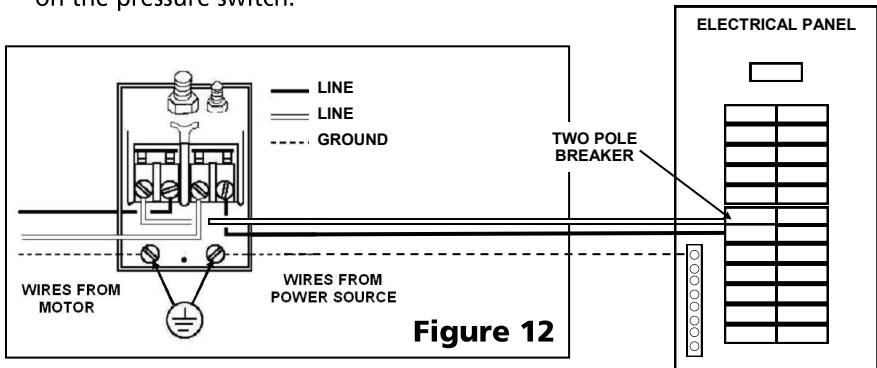

Figure 12
2. Connect one hot wire (usually black or red) from the power source to one of the screw terminals on the pressure switch. It doesn't matter which one. Follow wiring diagram in Figure 12.